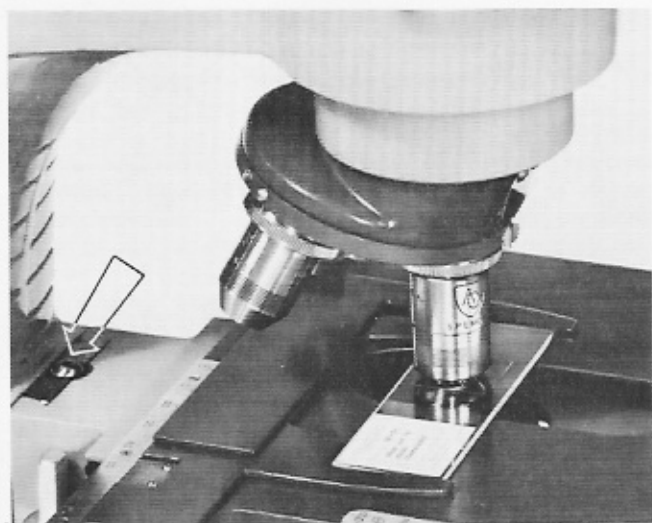

Figure 4. Autofocus Stop
The autofocus stop is pre-set at the factory. It is the stop which limits the height of the stage (see figure 4). This setting is valid for slides anywhere from 0.50 to 2.5 mm. in thickness. Because of the highly precise tolerances held in the manufacture of the objectives (affecting both parcentration and parfocality), it is possible to search the slide with 10X or 45X objectives, find the field required for study under oil
- Remove autofocus stop screw (figure 4).